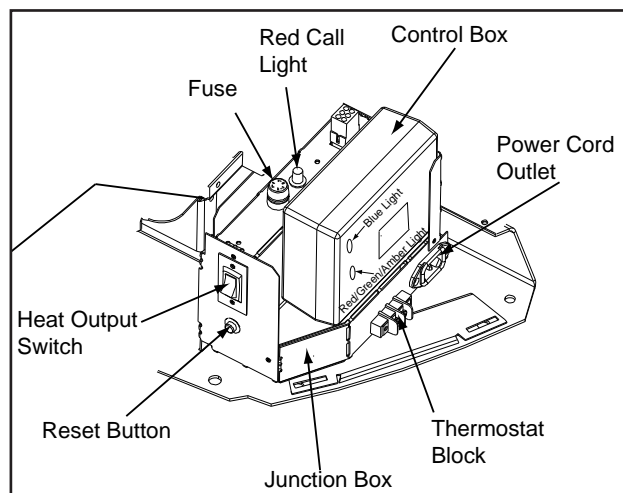

Figure 10.1
3. Locate the heat output control switch on the lower right side of the firebox behind decorative front door. Set to the HIGH setting and then adjust the thermostat to its highest setting. The red call light will be on which is located on the top of the junction box behind the right access panel. This indicates the thermostat is calling for heat. **Figure 10.1.**
3. Occasionally the appliance may run out of fuel and shut itself down. When this happens, the red call light will be on. **See Figure 10.1 on page 10.1.**